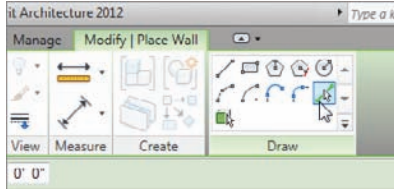

FIGURE 2.11 The Pick Lines icon lets you add a wall by using an offset from another object.
2. On the Draw panel, click the Pick Lines icon, as shown in Figure 2.11.